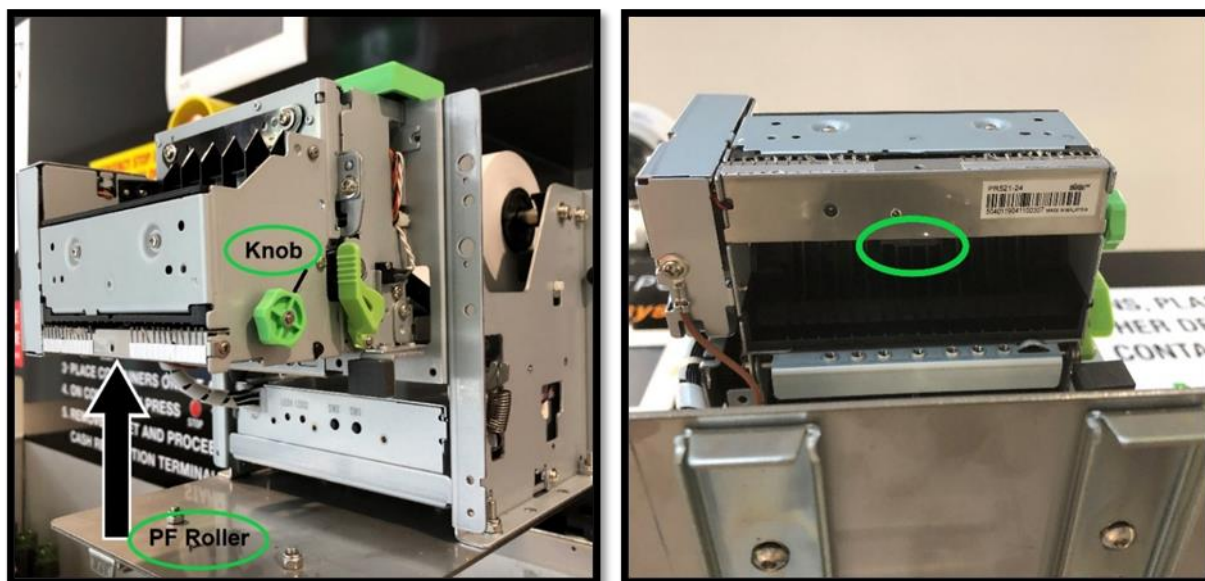

Figure 79. Printer Roller Cleaning
- Locate the small PF roller under the printer head as seen on Figure 79
- Turn the printer “off” at the switch on the rear/left hand side of the printer as seen in Figure 79